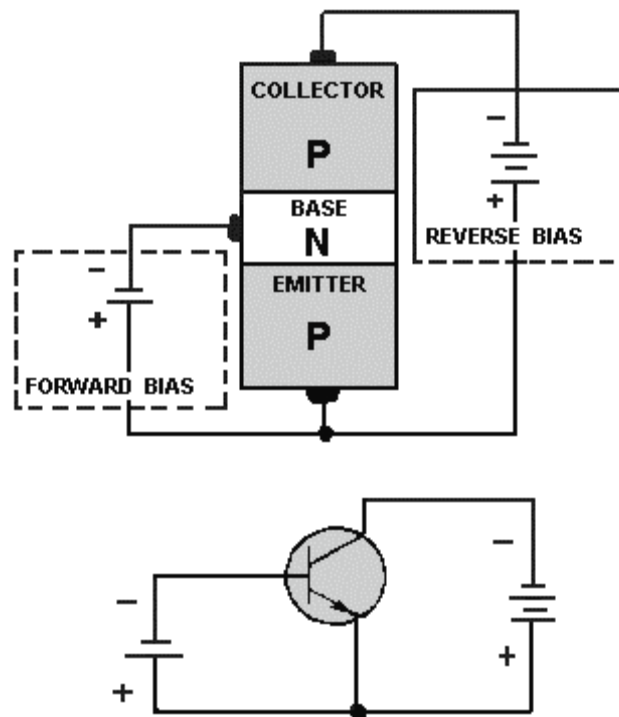

Figure 2-8.—A properly biased PNP transistor.
The PNP transistor works essentially the same as the NPN transistor. However, since the emitter, base, and collector in the PNP transistor are made of materials that are different from those used in the NPN transistor, different current carriers flow in the PNP unit. The majority current carriers in the PNP transistor are holes. This is in contrast to the NPN transistor where the majority current carriers are electrons. To support this different type of current (hole flow), the bias batteries are reversed for the PNP transistor. A typical bias setup for the PNP transistor is shown in figure 2-8. Notice that the procedure used earlier to properly bias the NPN transistor also applies here to the PNP transistor. The first letter (P) in the PNP sequence indicates the polarity of the voltage required for the emitter (positive), and the second letter (N) indicates the polarity of the base voltage (negative). Since the base-collector junction is always reverse biased, then the opposite polarity voltage (negative) must be used for the collector. Thus, the base of the PNP transistor must be negative with respect to the emitter, and the collector must be more negative than the base. Remember, just as in the case of the NPN transistor, this difference in supply voltage is necessary to have current flow (hole flow in the case of the PNP transistor) from the emitter to the collector. Although hole flow is the predominant type of current flow in the PNP transistor, hole flow only takes place within the transistor itself, while electrons flow in the external circuit. However, it is the internal hole flow that leads to electron flow in the external wires connected to the transistor.